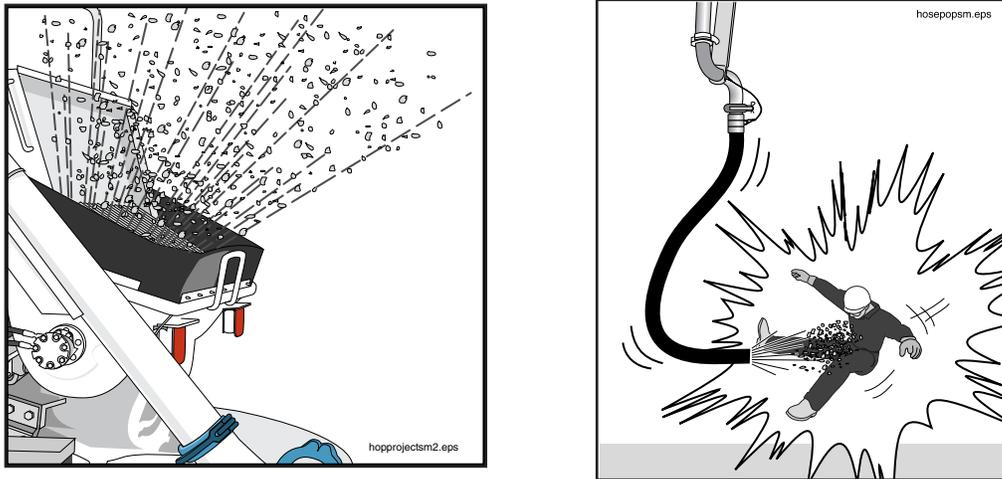

Figure 11
4.6 ⚠️ WARNING! Hose whipping and other hazards. Regardless of how it happened, if air is sucked into the cylinders, the pump **MUST BE STOPPED**. If you cannot get the operator's attention, hit the emergency stop switch. It is the operator's job to know how to safely remove air from the pump and delivery system. Do not refill the hopper unless directed to do so by the pump operator. Stand away from the hopper and the end hose until the operator has removed the trapped air from the delivery system and has signaled you that it is safe to begin unloading again. See Figure 11.